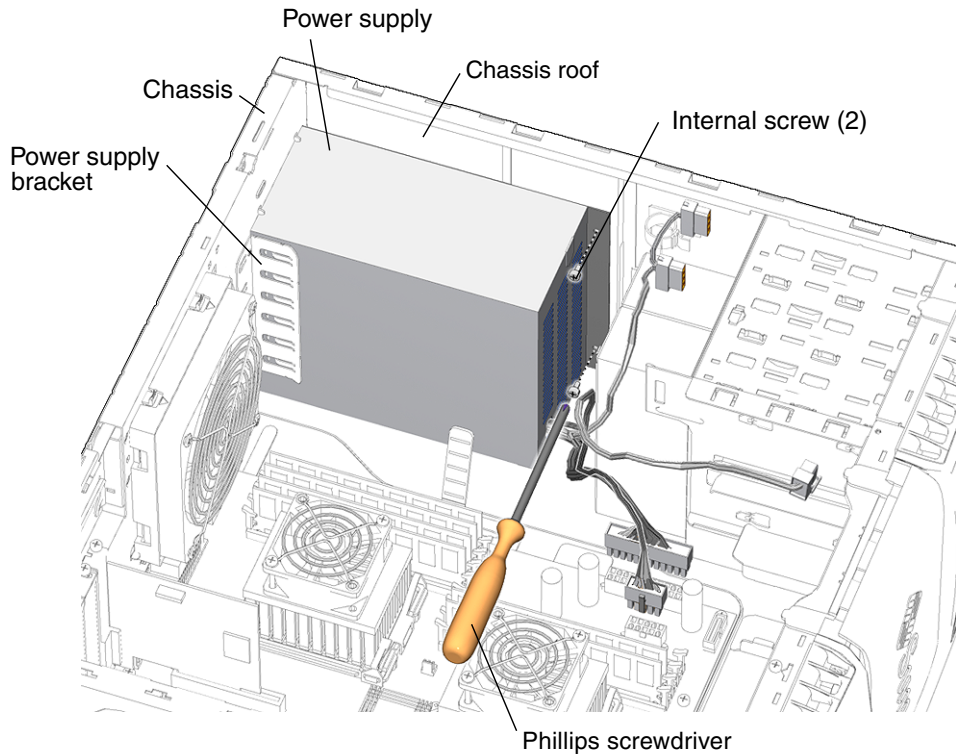

FIGURE 13-7 Aligning the Power Supply to the Chassis
3. Locate where the power supply is to be installed (FIGURE 13-7).
5. Fasten the power supply to the chassis roof (FIGURE 13-7).
- The power supply is seated on the power supply bracket (FIGURE 13-7).